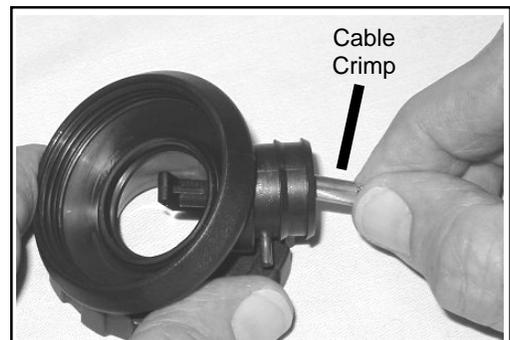
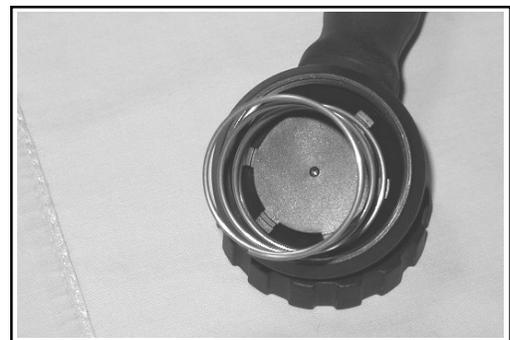

Fig. 7
Fig. 8
- c. Holding the RAPID EXHAUST CABLE with Arm by the crimp, insert the Arm into the Inlet opening and insert the PIN through the Loop of the CABLE and into the Pin Hole in the opposite side of the Inlet (Fig. 7).
- e. Fasten a TIE WRAP (7) around the Groove of the HOSE and tighten with the lock Tab positioned at the side of the HOUSING. Snip off the excess length.
2. Install the GASKET/POPPET ASSEMBLY (3) into the UPPER HOUSING BODY ASSEMBLY (4) with the Gasket resting on the seating Rim in the HOUSING.
3. Set the EXHAUST VALVE SPRING (2) on top of the GASKET/POPPET ASSEMBLY (3), outside the alignment Tabs (Fig. 8).
4. Set the UPPER HOUSING CAP (1) on top of the EXHAUST VALVE SPRING (2), pressing it straight down to compress the SPRING and thread it clockwise until secure. DO NOT over-tighten.